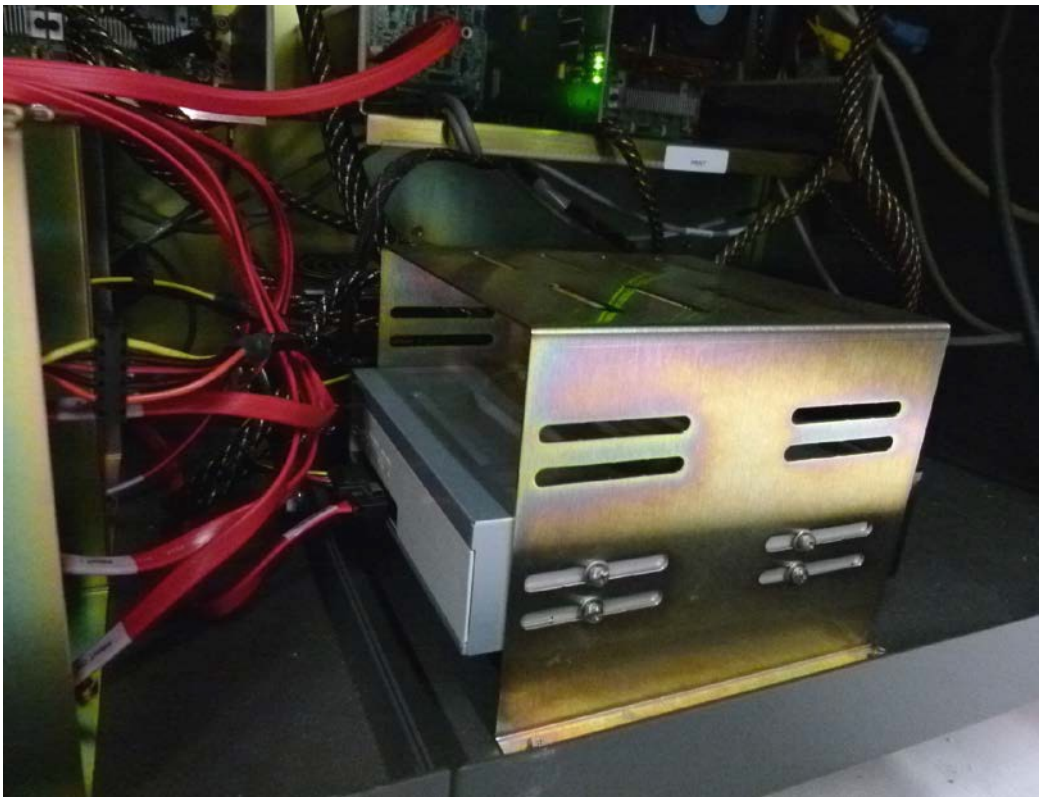

Figure 54: DVD drive in CPU cabinet
3. Insert installation DVD into control side CD/DVD drive, located inside electronics cabinet at CPU side bottom. See **Figure 54**.
1. Insert installer disc into DVD drive in CPU cabinet. See **Figure 54**.